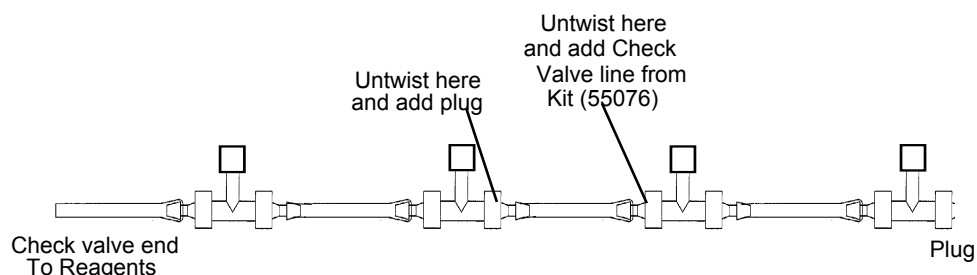

Figure 10. Disconnecting Manifold String
- 1 Modify the manifold string for two separate workstations by disconnecting the string at the length appropriate for the new workstation. See Figure 10.